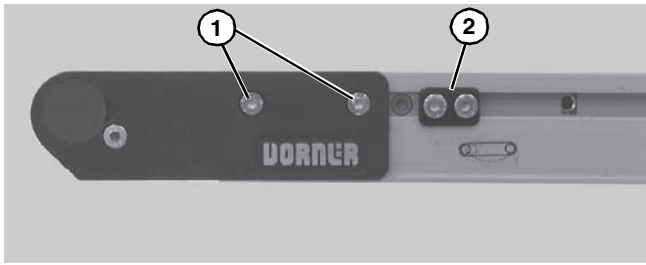

Figure 32
- After adjusting proper tensioning, tighten fastening screws (**Figure 32, item 1**) on both sides of conveyor to 60 in-lb (7 Nm).
- If equipped with cam tracking assemblies (**Figure 32, item 2**), position against head plates and adjust belt tracking. Refer to “Conveyor Belt Tracking” on page 16.